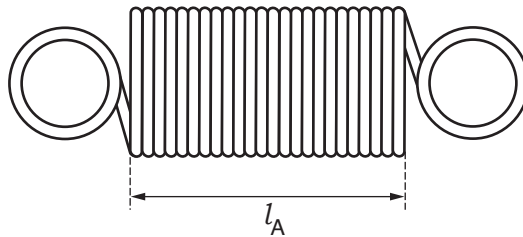

Fig. 1.1
- (a) On the spring provided measure the unstretched length l_A of the coiled part of the spring, as shown in Fig. 1.1.